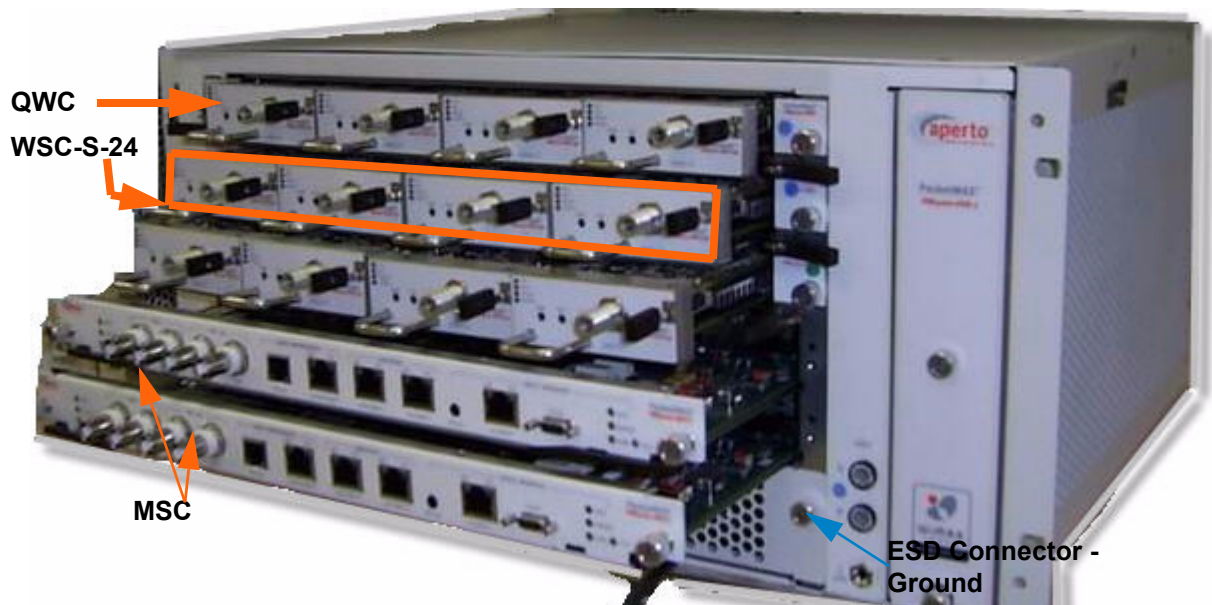

Figure 3-6 *Insterting WSC, MSC and filler panels in to PM 5000 - 12 sector*
- D. Install WSC cards in to the slots 2, 3, 4 or 5 of the PM 5000 chassis. Figure 3-6 shows 3 WSC card and 2 MSC cards.
- E. Similarly, each **WSC-S-24** has two ejector arms (See Figure 3-6) located on each side of the card, that are used to install an eject the card from the PM 5000 chassis. Insert the card in to one of its designated slots (Figure 3-6). Align the ejector arms so that they grip the inner tip of the chassis. Then, push the card in to the
- F. Install **MSC** (has two ejector arms as well) cards in to slot 1 and 2. *Figure 3-6* shows insertion of the MSC card.